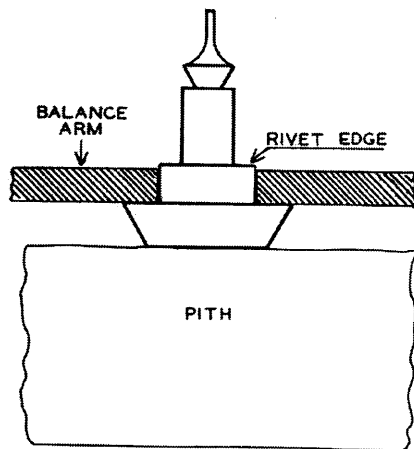

Fig. 15-13
3. Set balance in place on the balance seat. It should fit snugly without any side play. The shoulder should extend high enough above the arm of the balance to be riveted securely, figure 15-13.